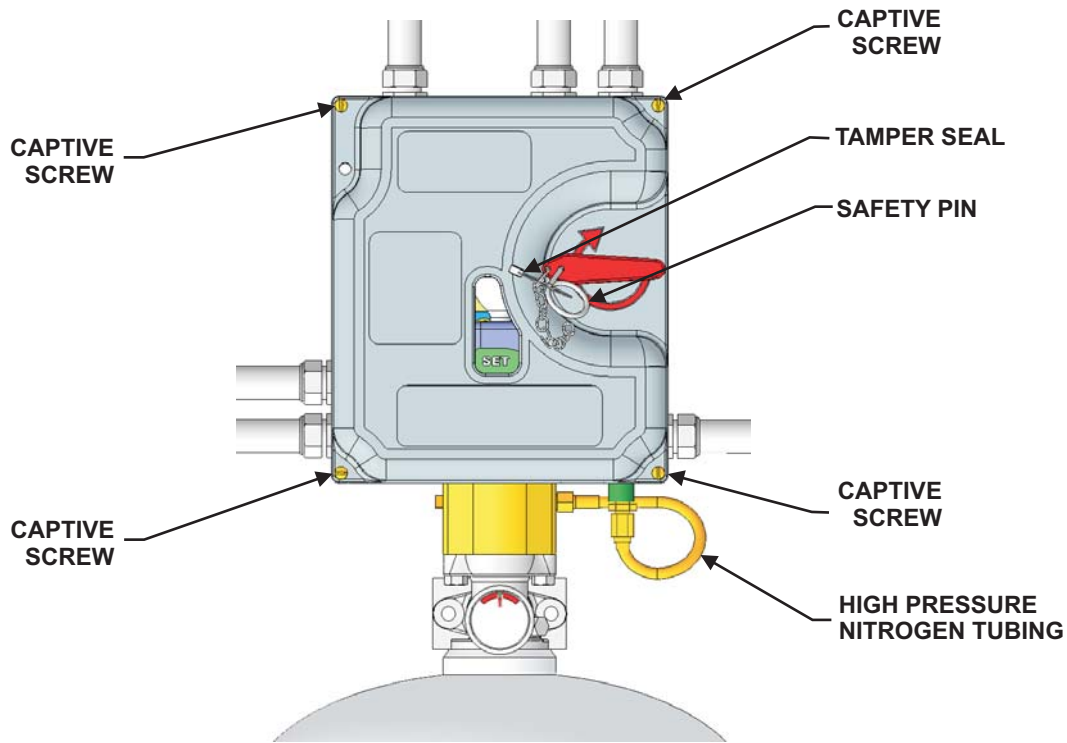

Figure 5-17. Cylinder Mounted XV Control System
19. Secure the High Pressure Nitrogen Tubing back onto the bottom of the XV Control System. Ensure that the fit is properly snug to prevent leakage. Refer to Figure 5-17.